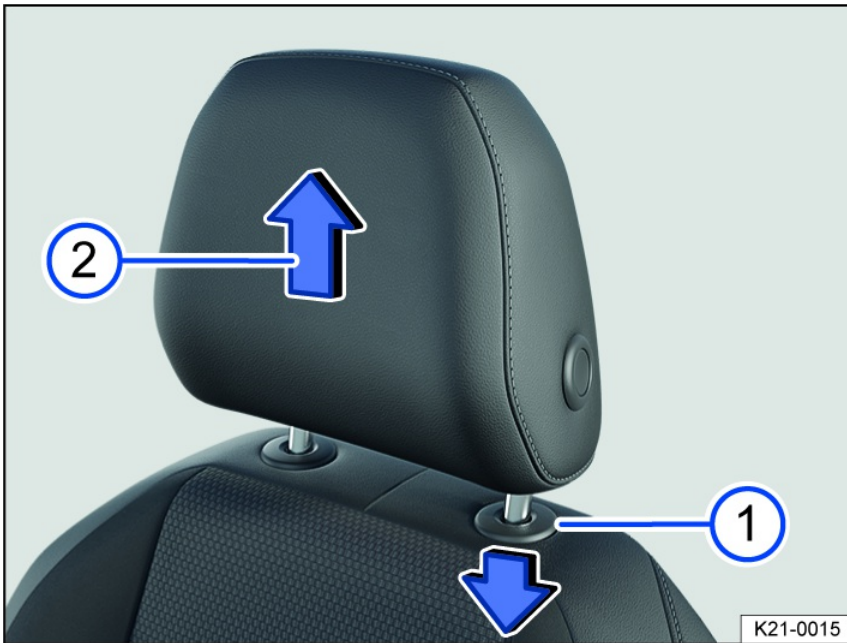

Fig. 65 Removing the front head restraint (general example).
2. To unlock, press down the ring around the guide rod of the head restraint *fig. 65*.
3. Pull out the head restraint in the direction of the arrow *fig. 65*.